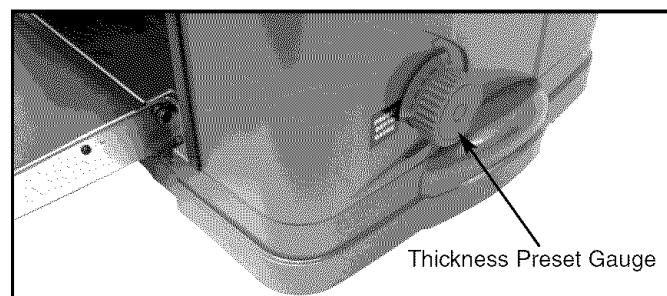

Figure 15 – Thickness Preset Gauge
Refer to Figure 15.
- Set the preset depth control knob at 1" (see Figure 15, page 7).